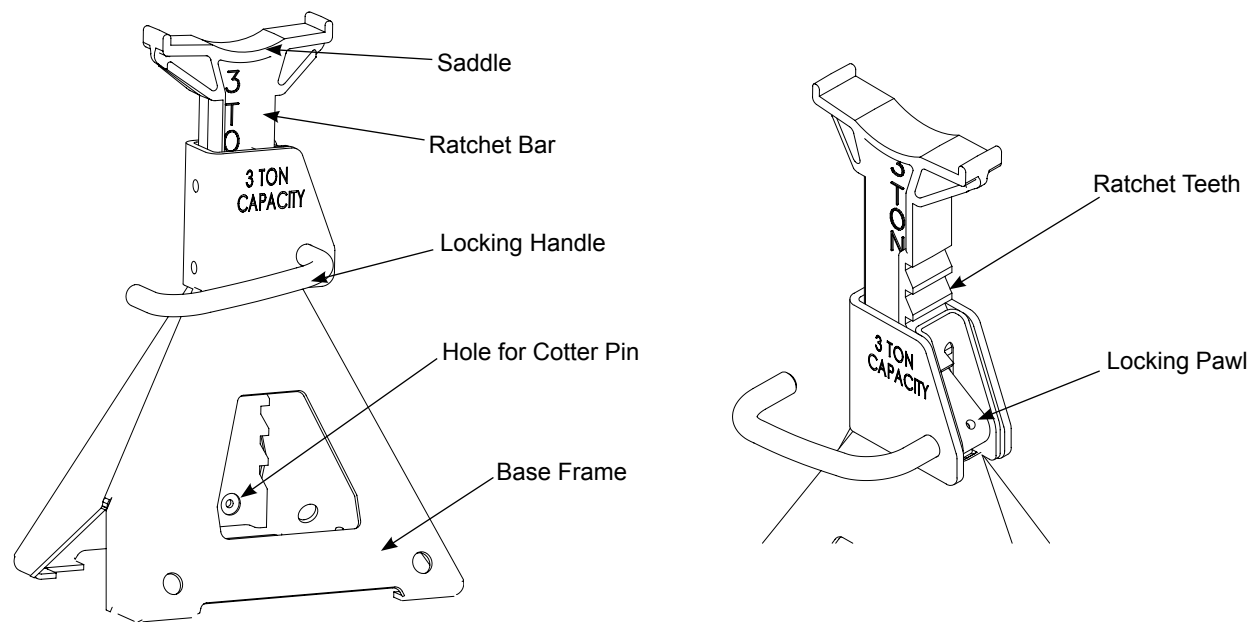

Figure 1 - Jack Stand Components
(refer to Figure 1 for location of components)
6. Insert cotter pin into the bottom hole of the ratchet bar to prevent inadvertent loss of the ratchet bar (refer to Figure 1).